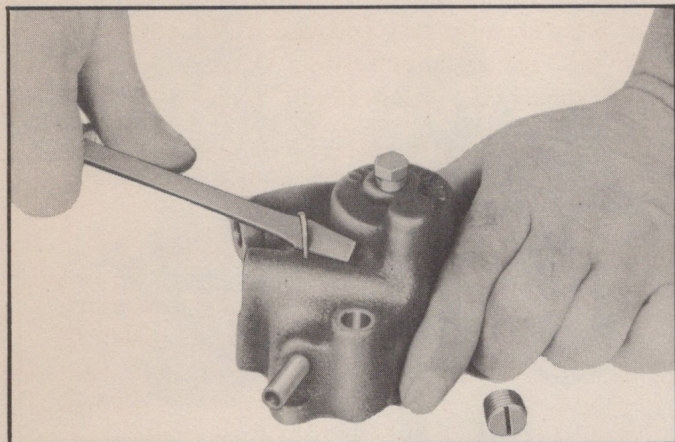

Fig. 166—Removing 4 to 3 Valve Spring Retainer
8. Remove pipe plug and spring retainer holding 4 to 3 valve in place (Fig. 166).